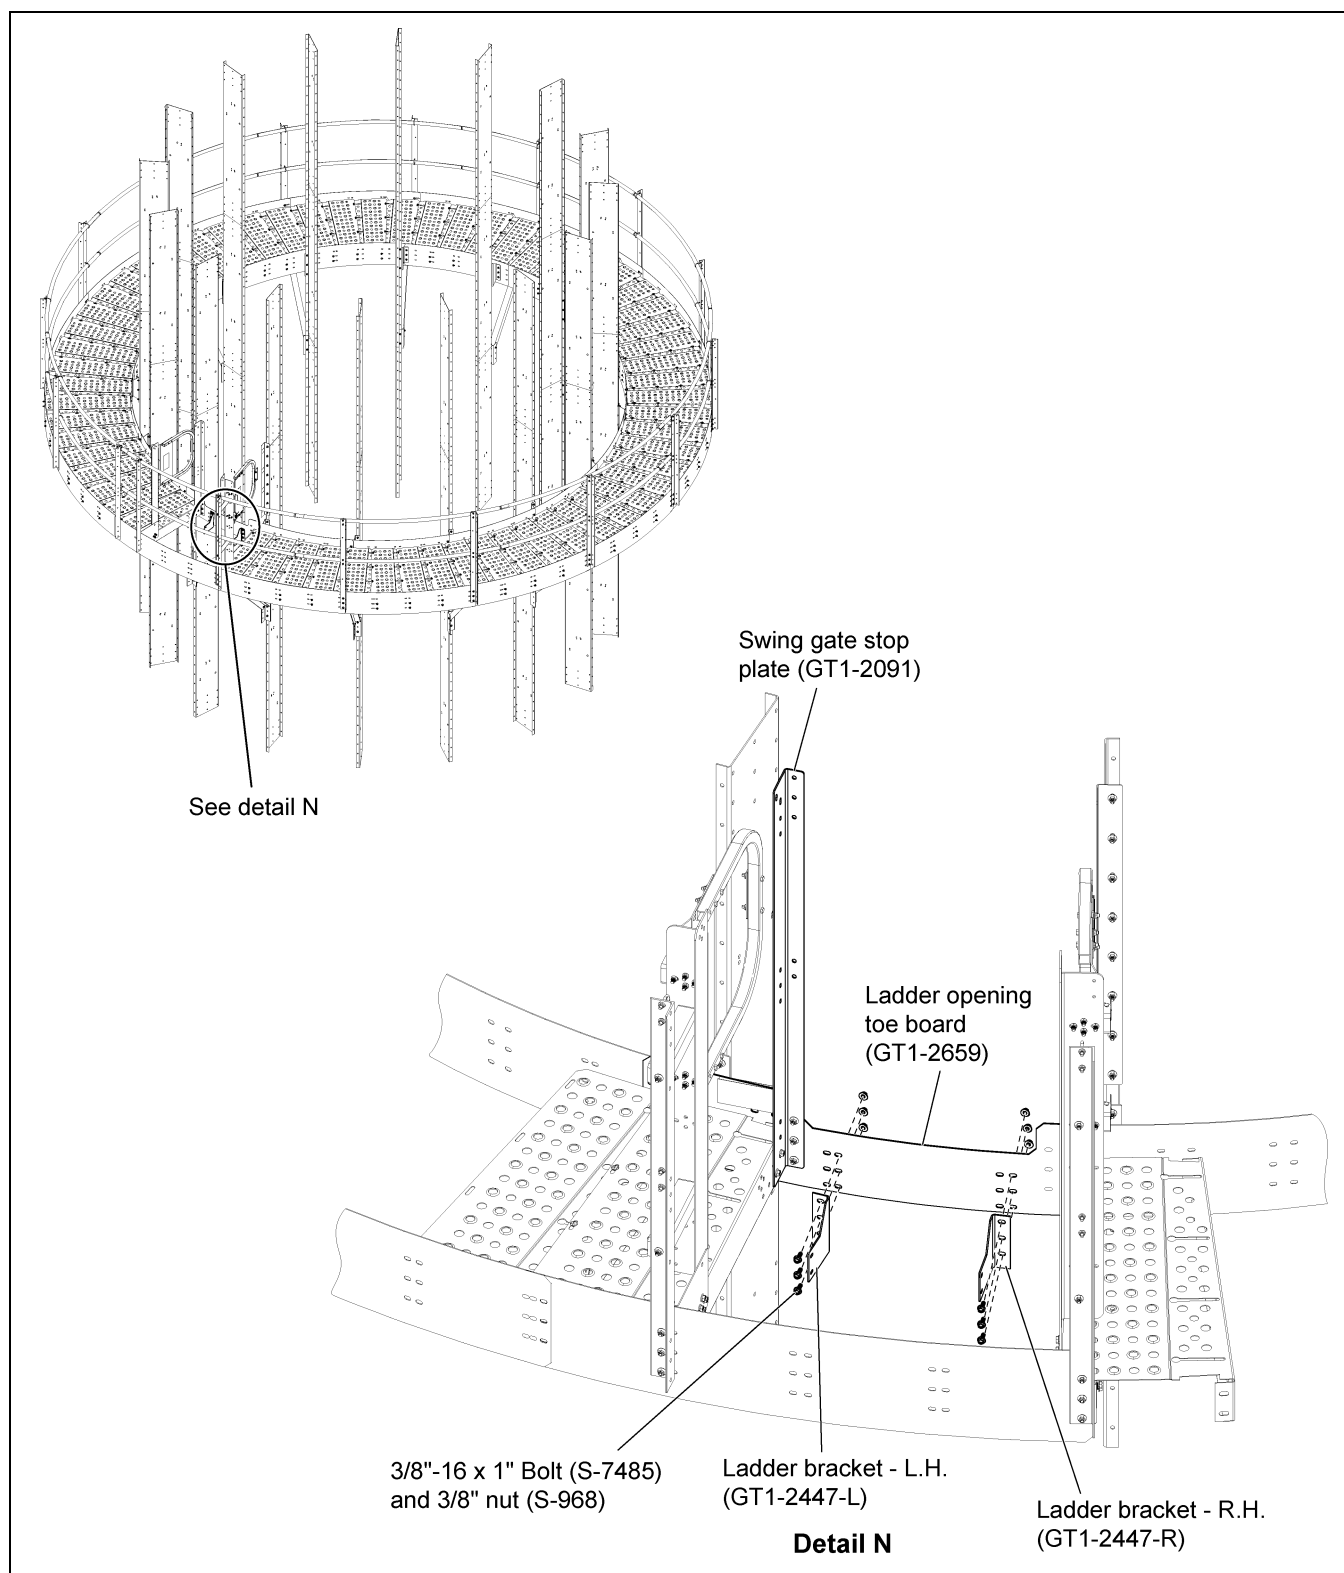

Figure 4Z
1. Install the ladder brackets (GT1-2447-L and GT1-2447-R) to the ladder opening toe board (GT1-2659) using 3/8"-16 x 1" JS grade 8 or grade 8.2 bolts (S-7485) and 3/8"-16 ZN grade 5 nuts (S-968). (See Figure 4Z.)